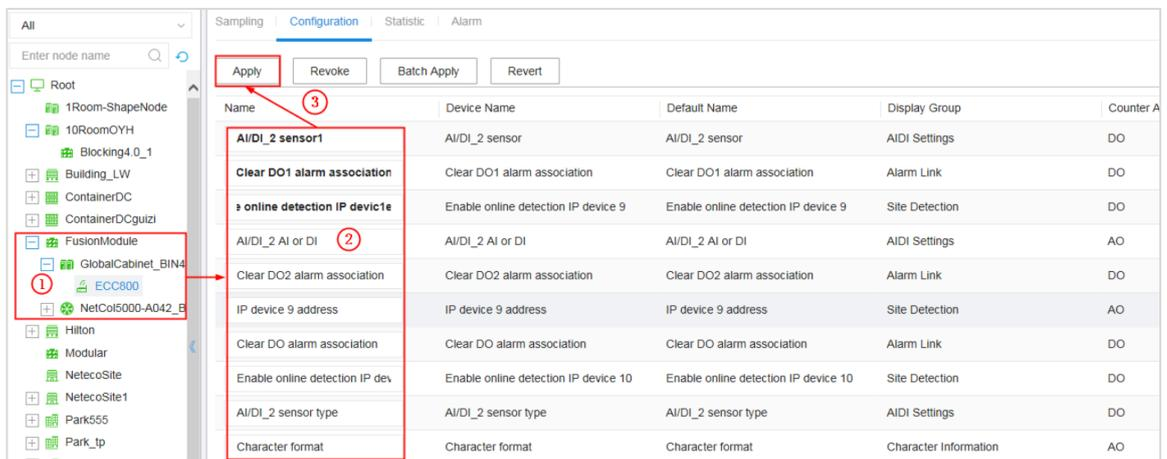
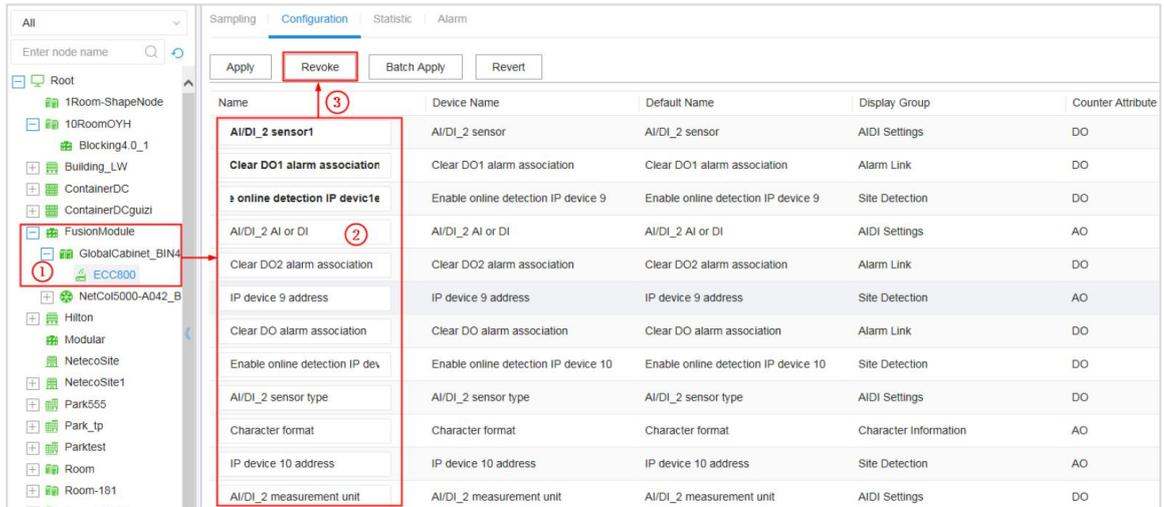

Figure 10-1 Changing the customized name
Figure 10-2 Changing the customized name in batches
Step 3 Support customized name, including modifying Sampling, Configuration, Statistic, and Alarm. Figure 10-1 and Figure 10-2 show the details.